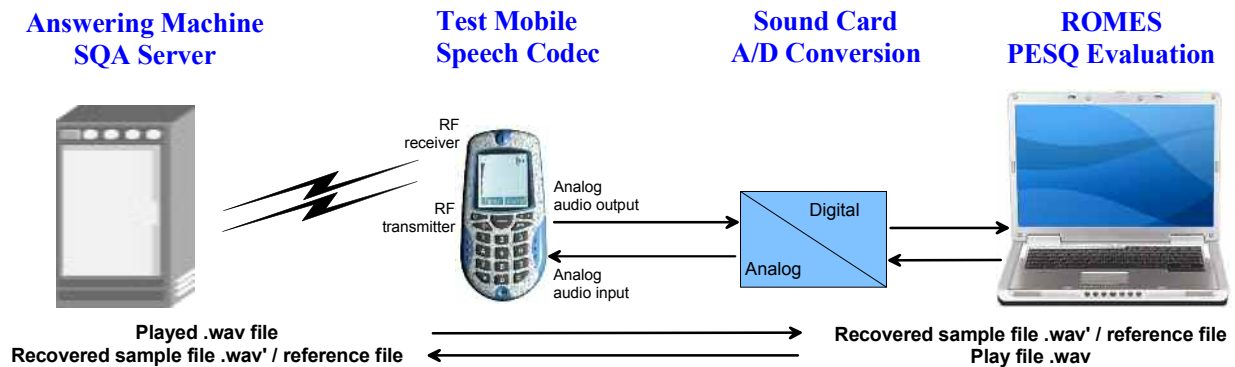

Fig. 6-131 Basic SQA Test Setup
6. Establish the basic test setup according to Fig. 6-131 on p. 6.266, ensuring that the answering machine/SQA server and the local PC contain copies of the same \*.wav file.